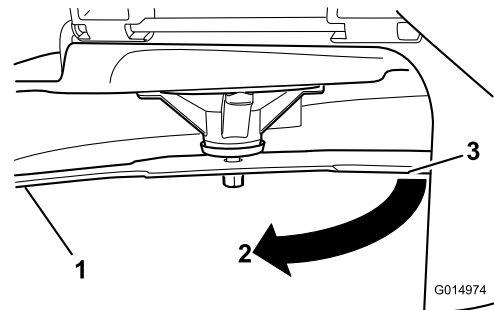

Figure 45
4. Rotate the same blade 180 degrees, so that the opposing cutting edge is now in the same position (Figure 45).